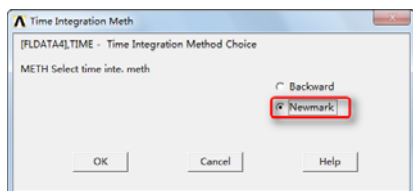

图 9-127 “Time Integration Meth”对话框
⑩依次选择 Main Menu → Solution → FLOTRAN Set Up → Transient Ctrl → Time Integration, 会弹出“Time Integration Meth”对话框,如图 9-127 所示,选择“METH Select